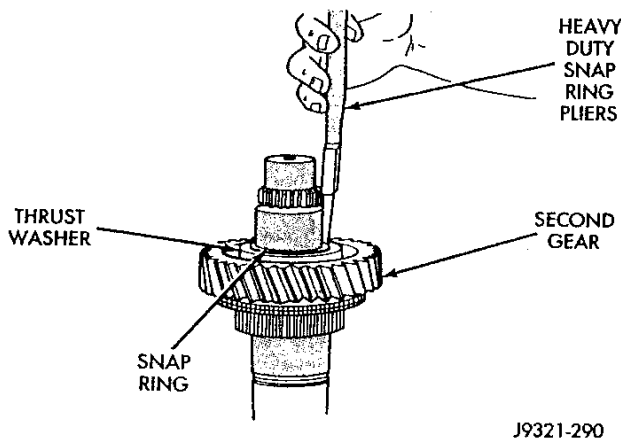

Fig. 25 Second Gear Snap Ring Removal
- (11) Remove third gear bearing from gear or shaft.
- (12) Remove second gear snap ring with heavy duty snap ring pliers (Fig. 25). Discard snap ring after removal as it is not reusable.